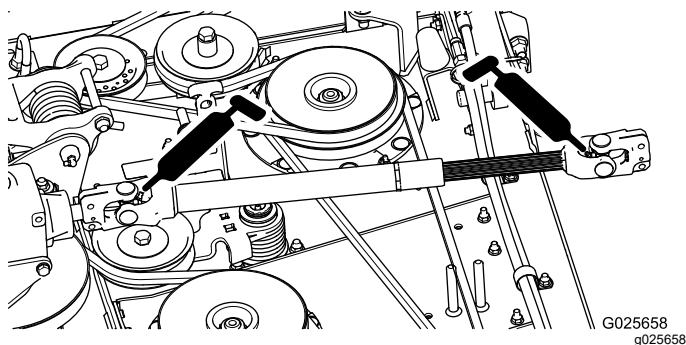

Figure 16
- PTO Drive shaft (2) (Figure 16)